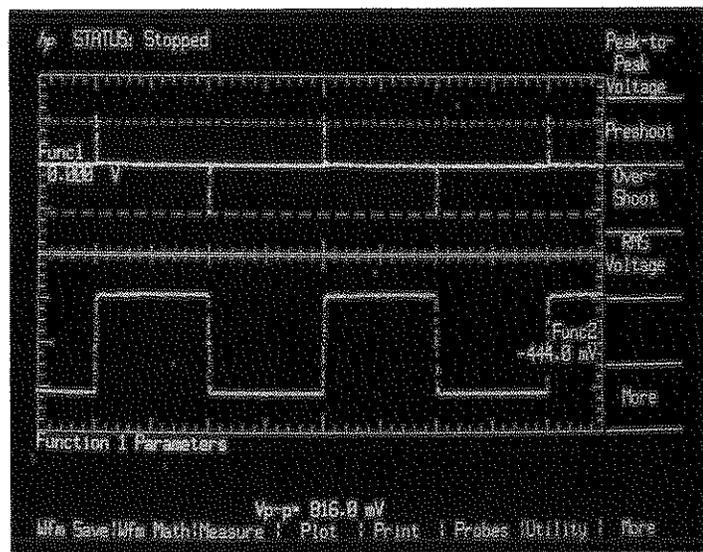

Figure 7-28. Measuring Func 1 Parameters.
5. Press the peak-to-peak key and notice Vmarkers appear on the func 1 trace. Press this key repeatedly. (see figure 7-28)